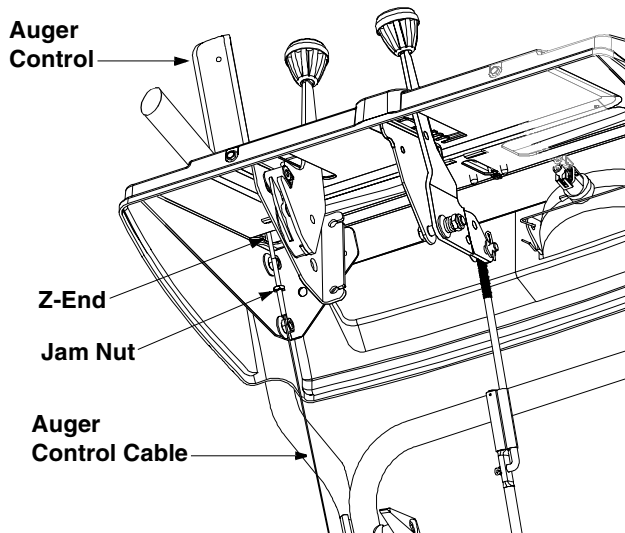

Figure 5
- Allow the auger to remain engaged for approximately ten (10) seconds before releasing the auger control. Repeat this several times.
- Retighten the hex jam nut. See Figure 5.